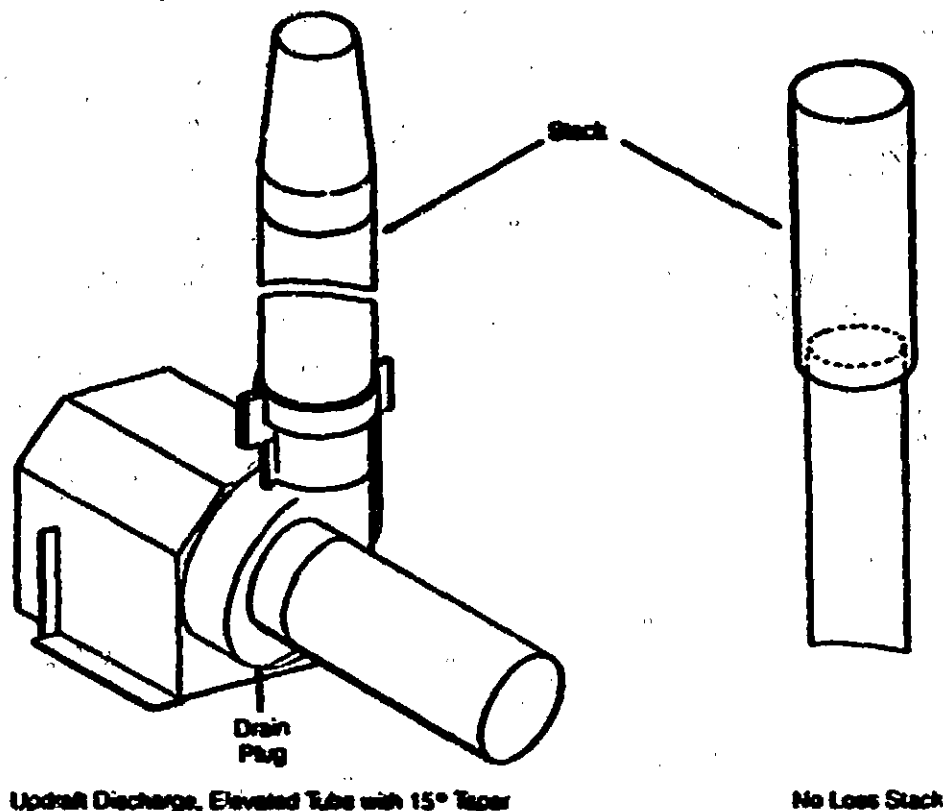

Figure 8: Discharge Terminations
14.3.8.4 Use one of the types of discharge terminations illustrated in Figure 8.